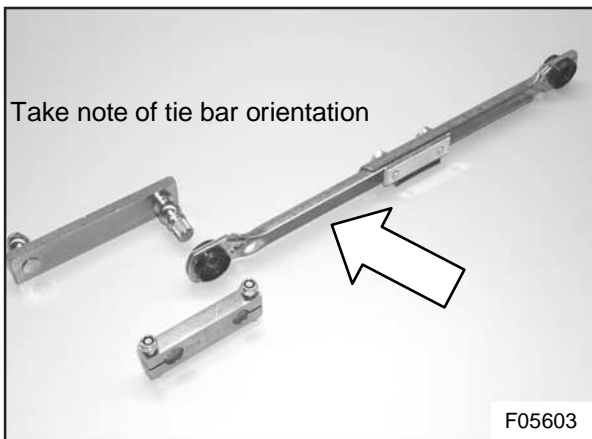

Figure 8 : Wiper motor linkage disassembled
9) Disassemble the bell crank and clamp (see Figure 8 and 9). With a large screwdriver, separate the wiper tie bar from the bell crank. Take note of the dust cap installation on the tie bar. Note tie bar orientation. Note relative position of bell crank and clamp.